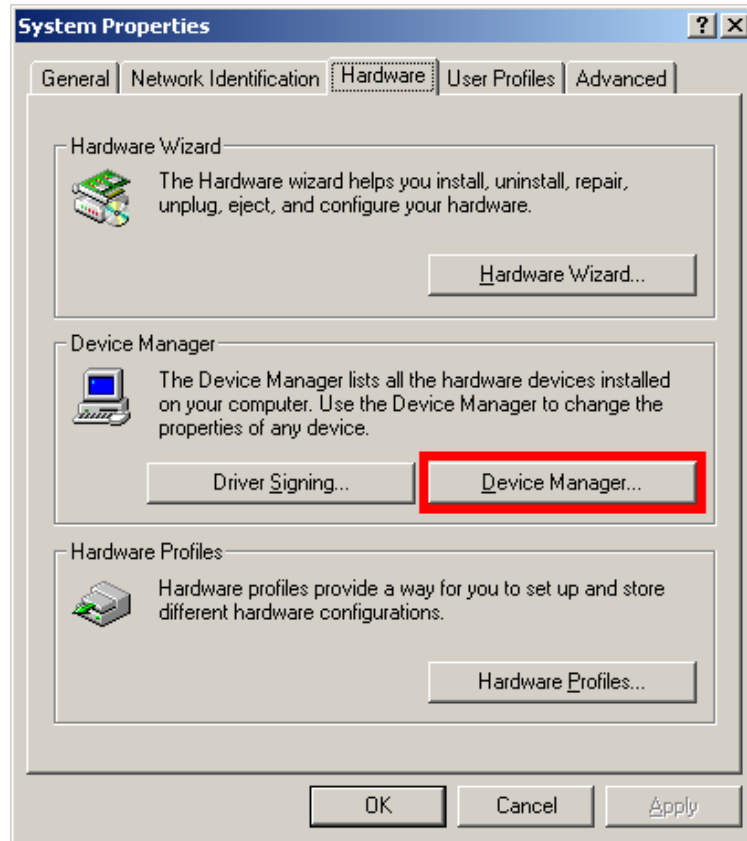

Figure 7-42: Double Click the Device Manager Tab
Step 3: Double-click the **Device Manager** tab (Figure 7-42).